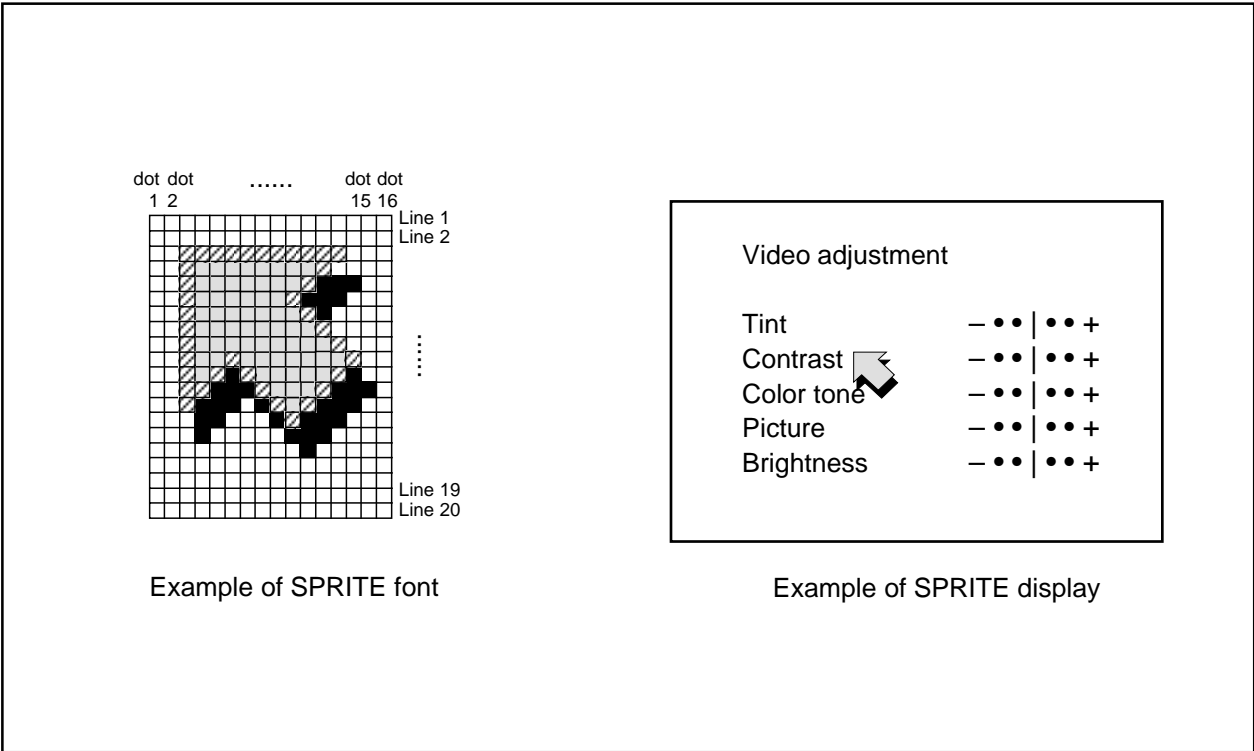

Figure 2.16.41 SPRITE OSD display example
Notes 1: An OSD1 interrupt does not occur at the end of display when the block is not displayed. In other words, if a block is set to off display by the display control bit of the block control register i (addresses 021016 to 021F16), an OSD1 interrupt request does not occur (refer to Figure 2.16.41 (A)).